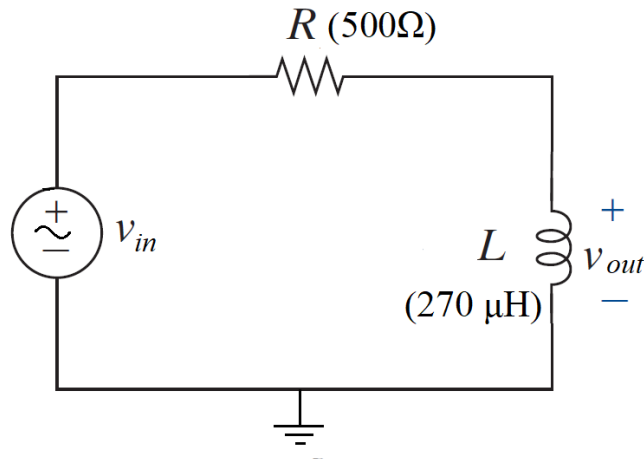

Figure 2: High Pass RL filter
1. Patch the RL circuit given in Fig. 2 on the breadboard and apply sinusoidal signal from the signal generator. Adjust the magnitude of the sinusoidal signal to 10 V peak and 100 Hz.